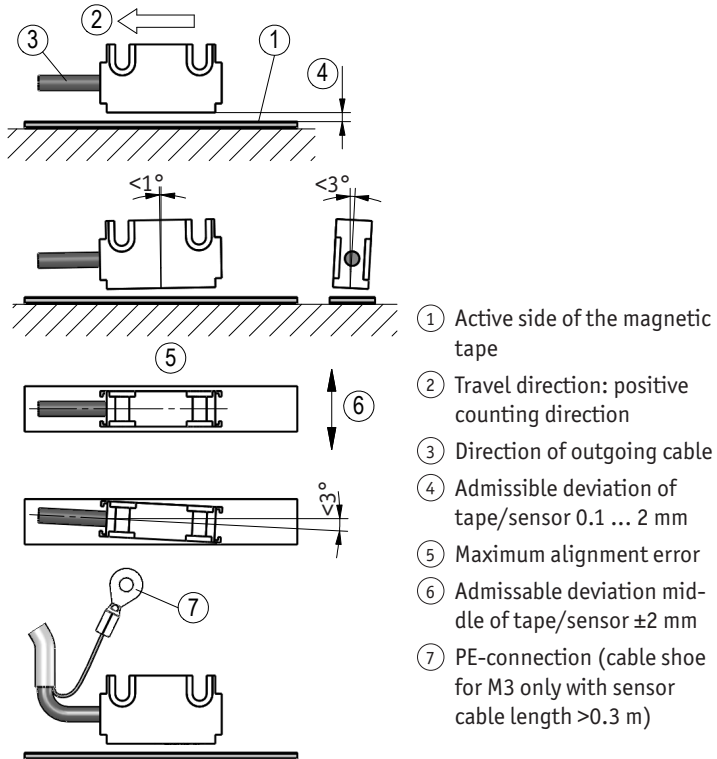

Fig. 7: Definition of the counting direction with magnetic tape and assemblage sensor / magnetic tape, gap measure, tolerances
- ▶ Take care that the magnetic sensor is aligned correctly in order to ensure optimum sensing (see **Fig. 7**).
With sensor cable lengths >0.3 m the display's housing and the PE-connection near the sensor (see Fig. 7) must be properly earthed!